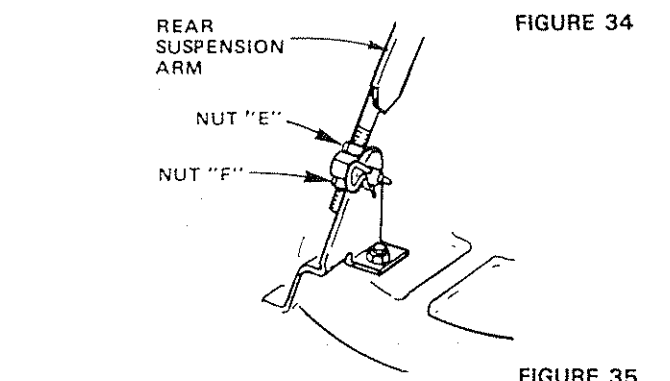

FIGURE 35
- To raise rear of mower, loosen Nut "E" on both Rear Suspension Arms. Screw both Nuts "F" up EQUAL NUMBER OF TURNS (Fig. 35).
- To lower rear of mower, loosen Nut "F" on both Rear Suspension Arms an EQUAL NUMBER OF TURNS (Fig. 35).